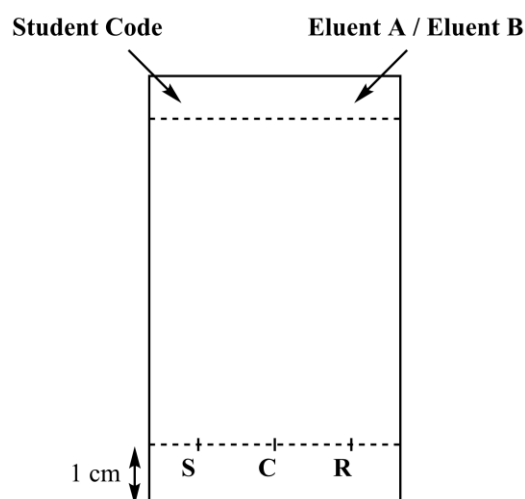

Figure 3. TLC plate preparation
3. **Prepare your TLC plate.** Use a pencil to **draw** carefully the start line (1 cm above the bottom of the plate) and **mark** the positions in order to spot the 3 samples. **Label** them **S** (Starting material), **C** (Crude product) and **R** (Recrystallized product), as described in Figure 3. On the top left of the plate, **write** your **Student Code**. On the top right of the plate, **write** the eluent you use (first **Eluent A**, then **Eluent B**). **Spot** the three samples on the plate, using capillary spotters.